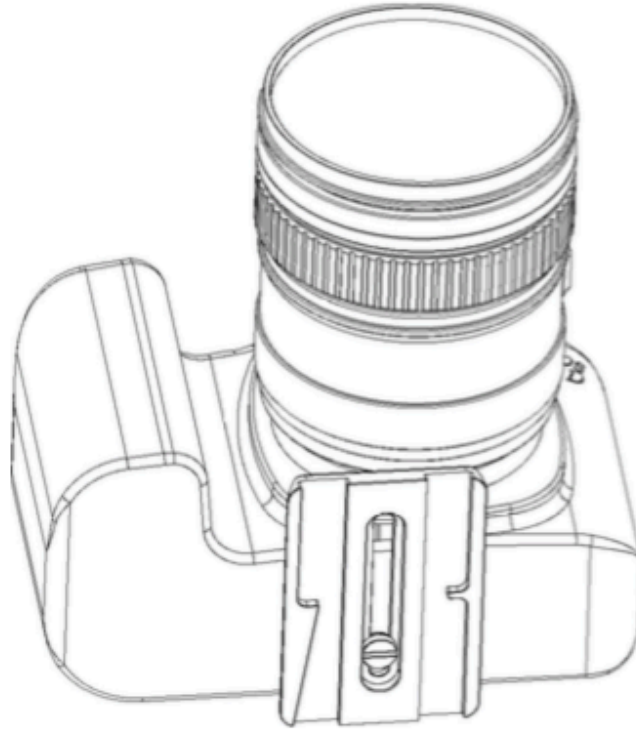

Fig. 4. The camera is attached to the quick release plate
- Attach the quick release plate to the camera (Fig. 4); be careful not to twist it too tight at this point.